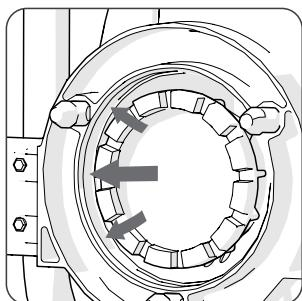

Fig. 6
- Keep the annular rings scrupulously clean and free from debris (Engine & Accessory). (**Fig. 6**)